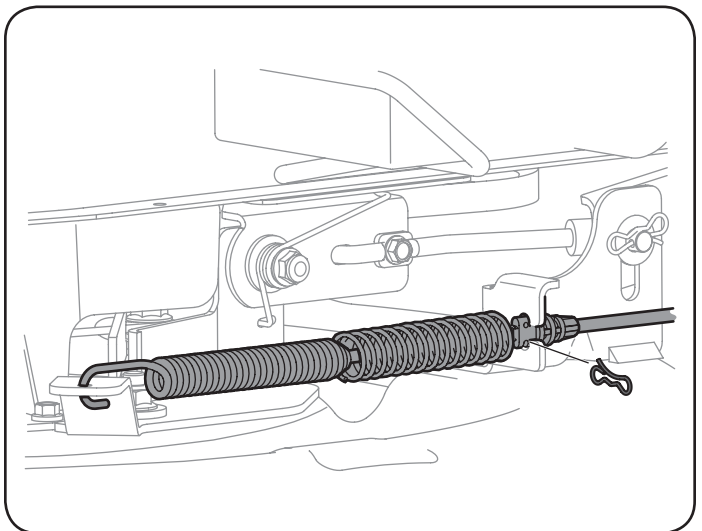

Figure 18
8. Carefully remove the PTO cable from the rear of the cutting deck by removing the bow-tie cotter pin which secures it. Remove the spring from the deck idler bracket. See "Figure 18".